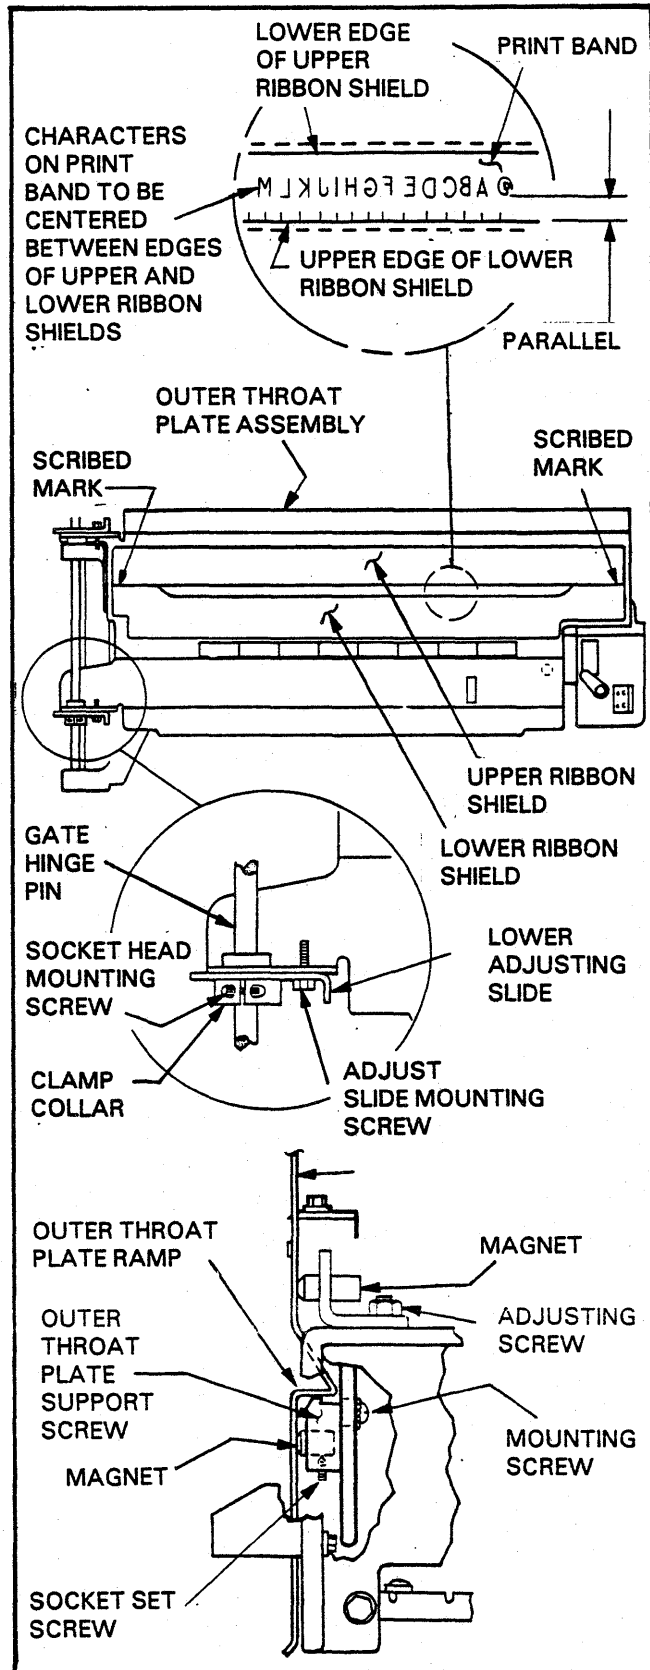

FIGURE 5-25. VERTICAL ADJUSTMENT OF OUTER THROAT PLATE
**Procedure (See Figures 5-25 and 5-26)**
- a. Loosen the outer throat plate support block mounting screw on the latch side of the print gate (Figure 5-25). Slide the block down so it is not supporting the outer throat plate.